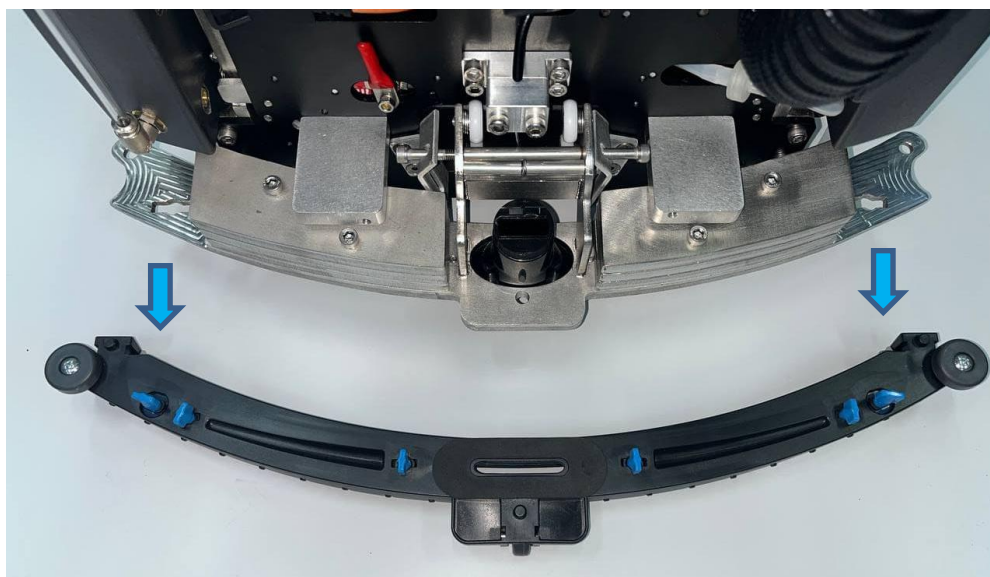

Fig. 3
2. Align both fasteners with their hole (Fig. 1) before pulling the squeegee cartridge out (Fig. 3).